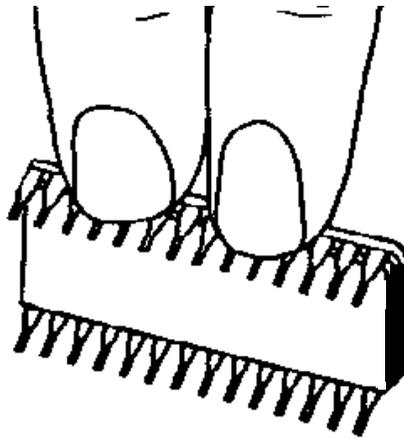

Figure 3: Aligning RTC/NVRAM Pins
5. Before installing the RTC/NVRAM chip on the replacement SPARC CPU/Sbus assembly, verify that the chip's pins are all evenly spaced and vertically aligned. If necessary, align the pins with a commercially available pin-straightener tool, or lay the chip on its side and gently press the top edge, being careful not to press on the pins (Figure 3). Repeat this procedure for the other row of pins.